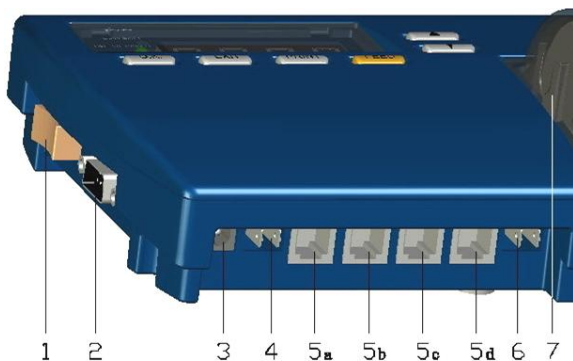

Figure 6: Connections
1. Connect the CTR power cable to the CTR 12V power jack (item 3 in Figure 6) on one side and the two leased lines (polarity is not needed) to the Vehicle 12V and GND. The power may be connected also to the ignition switch or to the cooling system.
2. Connect the DB9 connector of the CTR communication cable to the CTR RS-232 port (item 2 in Figure 6). Connect the RJ45 male connector of the CTR communication cable to the RJ45 female connector of the Cellocator unit harness.
3. Connect the temperature / temperature-humidity/ event sensors cord to the sensor input jacks (items 5 in Figure 6). The CTR recorder has 4 input jacks. Connect the sensors 1 through 4 from left to right. The CTHR uses only the first 2 left input jacks.
4. Switch the power switch to the On position (item 1 in Figure 6). The Power and Sensor LEDs turn green. After a few moments, the first channel value should appear in the display area.
- ▲ To send alarms to a remote device, attach a cable to the remote alarm contacts (item 6 in Figure 6). The remote alarm contacts are a pair of ¼" terminals, 1 Amps, 12V.
- ▲ To export data to a PC, attach the optional CTR RS-232 cable (not included) from the PC to the CTR RS-232 port (item 2 in Figure 6).
- ▲ To silence the alarm, connect a remote buzzer silencing device by attaching a cable with a momentary switch to momentarily short the buzzer silencer contacts (item 4 in Figure 6). The buzzer silencer contacts are a pair of ¼" terminals.
1. Connect an RS-232 cable from the PC to the RS-232 port (item 2 in Figure 6).